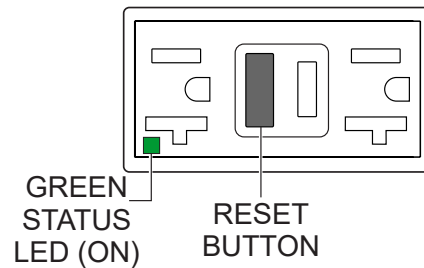

Figure 74. GFCI Receptacle (ON/Restore)
5. Press the **RESET** button (Figure 74) to restore power to the GFCI receptacle and verify that the status LED is **ON (GREEN)**.